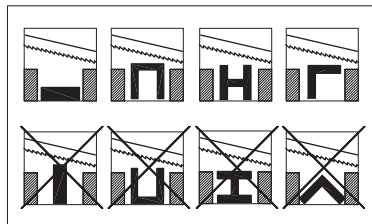

Fig. 11
4.6 CORRECT POSITIONING OF THE PIECE IN THE CLAMP (Fig. 11)